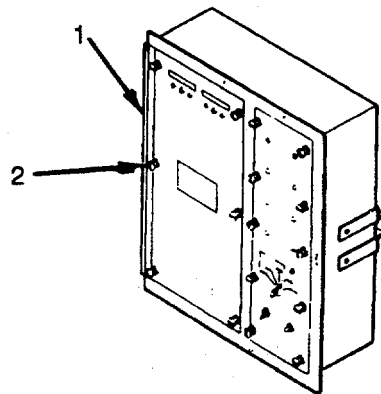

Figure 4-19. Left Electric Plate
- b. Close Left Electric Plate. Close panel (1) and tighten six captive fasteners (2) (see Figure 4-19).